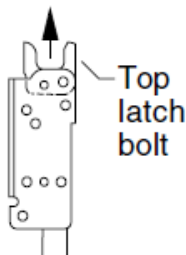

Figure 10-1
- 10.1. Undog the device(see page 17) and release the top latch bolt so it faces up (Figure 10-1).